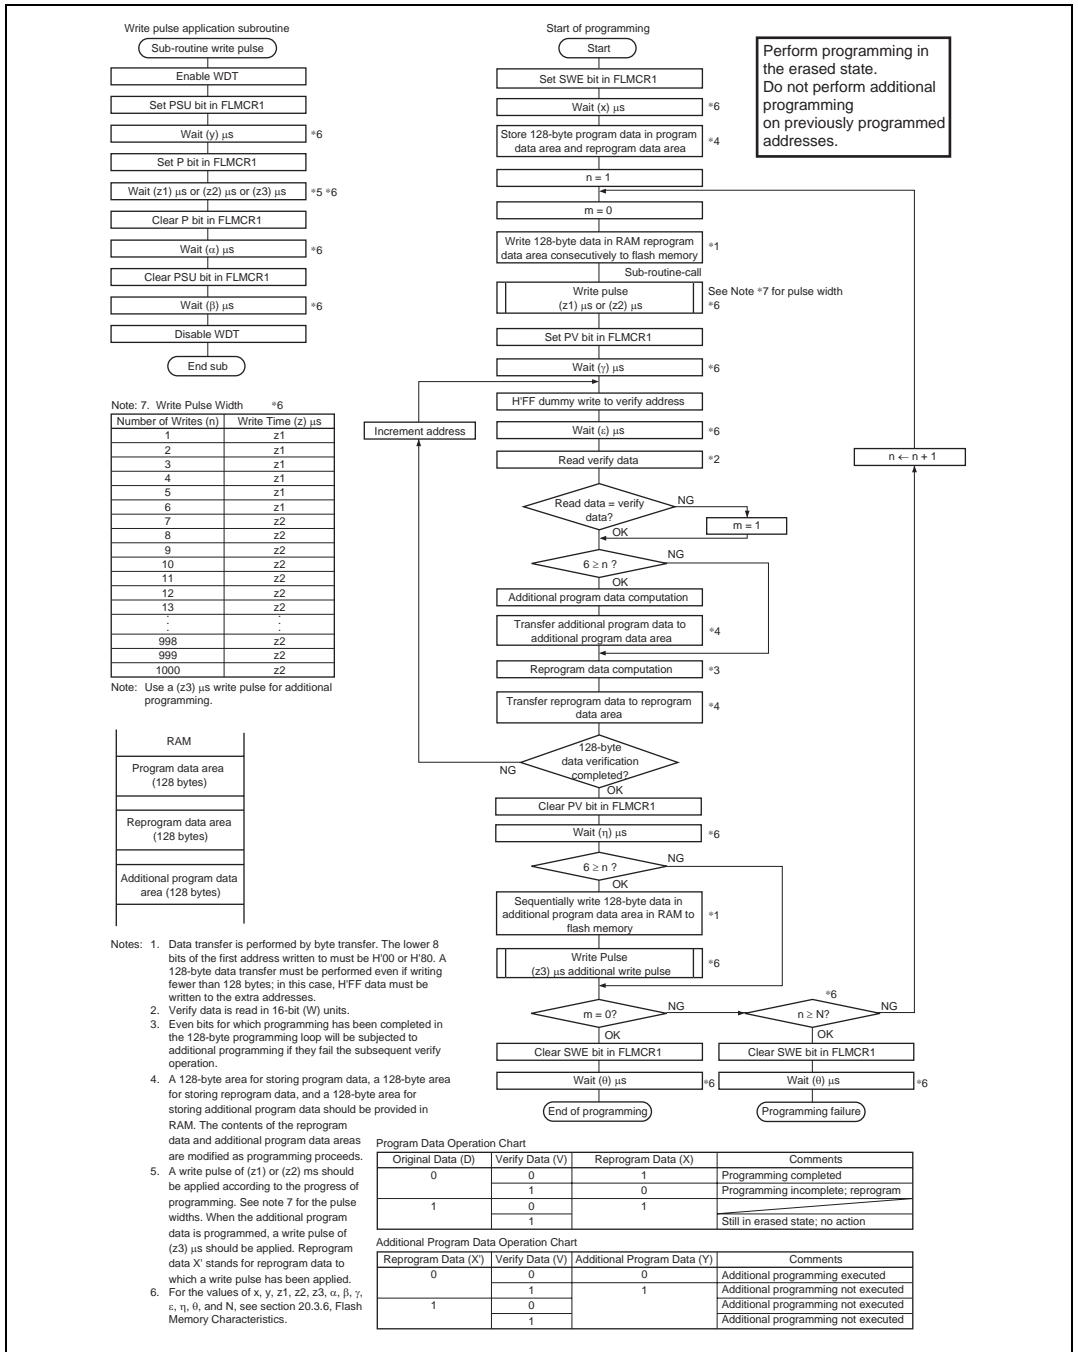

Figure 17.15 Program/Program-Verify Flowchart
Follow the procedure shown in the program/program-verify flowchart in figure 17.15 to write data or programs to flash memory. Performing program operations according to this flowchart will enable data or programs to be written to flash memory without subjecting the device to voltage stress or sacrificing program data reliability. Programming should be carried out 128 bytes at a time.
After the elapse of a given programming time, the programming mode is exited (the P bit in FLMCR1 is cleared to 0, then the PSU bit is cleared to 0 at least (α) μs later). Next, the watchdog timer is cleared after the elapse of (β) μs or more, and the operating mode is switched to program-verify mode by setting the PV bit in FLMCR1. Before reading in program-verify mode, a dummy write of H'FF data should be made to the addresses to be read. The dummy write should be executed after the elapse of (γ) μs or more. When the flash memory is read in this state (verify data is read in 16-bit units), the data at the latched address is read. Wait at least (ε) μs after the dummy write before performing this read operation. Next, the originally written data is compared with the verify data, and reprogram data is computed (see figure 17.15) and transferred to the reprogram data area. After 128 bytes of data have been verified, exit program-verify mode, wait for at least (η) μs , then clear the SWE bit in FLMCR1 to 0, and wait again for at least (θ) μs . If reprogramming is necessary, set program mode again, and repeat the program/program-verify sequence as before. However, ensure that the program/program-verify sequence is not repeated more than (N) times on the same bits.